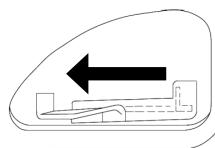

Fig. 12
2. Turn the choke lever to the "CLOSED" position. (Fig. 12)